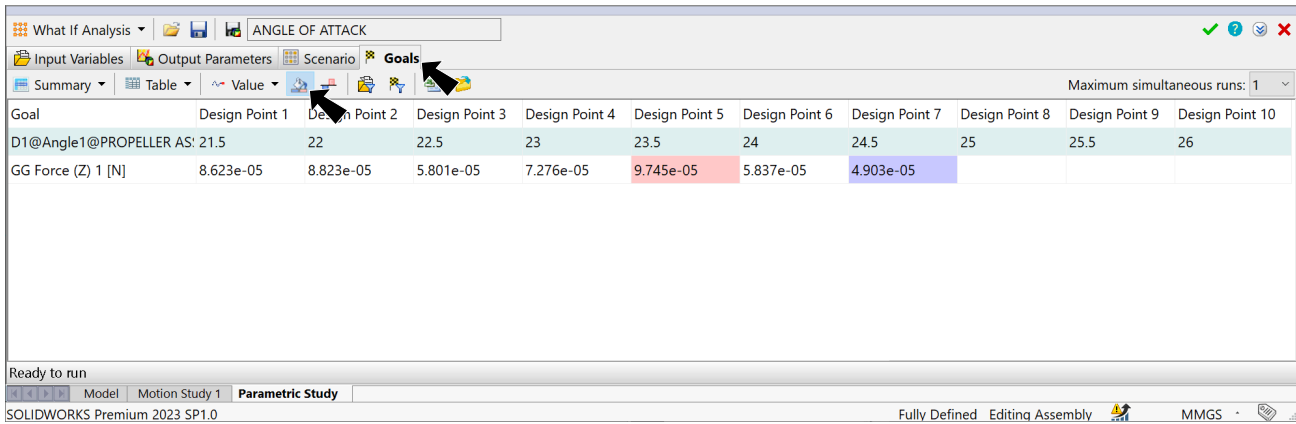

Fig. 11
Step 1. Click the **Goals** tab , **Fig. 11**
Step 2. Set Data View to **Chart** , **Fig. 11**.